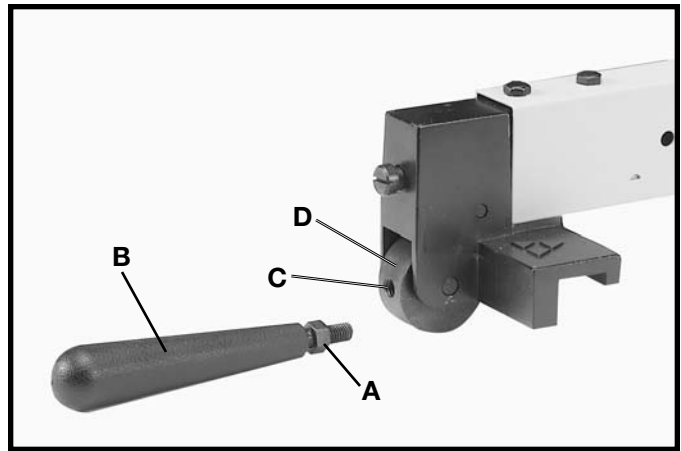
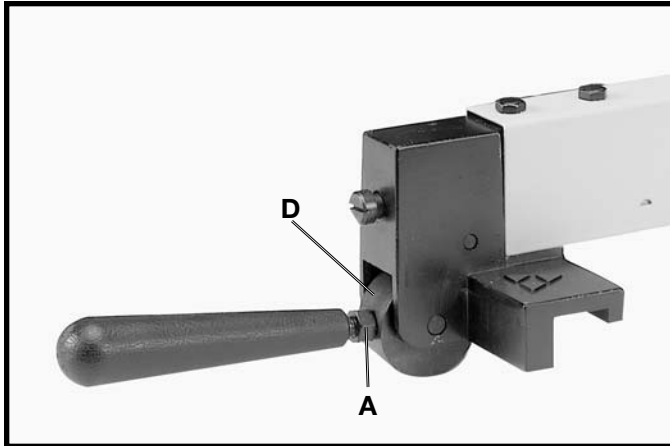

Fig. 17
Fig. 18
1. Thread locknut (A) Fig. 17, approximately halfway onto stud of handle (B).
2. Thread handle (B) Fig. 17, into tapped hole (C) in fence cam (D). Tighten locknut (A) Fig. 18, against cam (D).